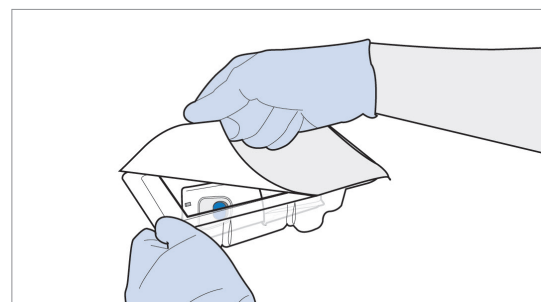

Figure 49 Remove Sterile Array from Packaging
2. Remove the sterile Array from its packaging and inspect for damage (see Figure 49).